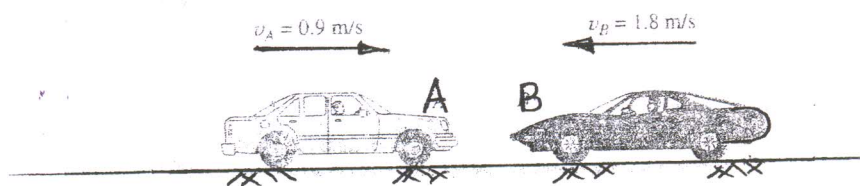

Fig. Q.9
Q.9 The car A has a weight of 22.5 kN and is travelling to the right at 0.9 m/s. Meanwhile, car B of weight 15 kN is travelling at 1.8 m/sec. to the left as shown in Fig. Q. 9. If the cars collide against each other and get locked, determine their common velocity just after the collision. Assume that the brakes are not applied during collision.